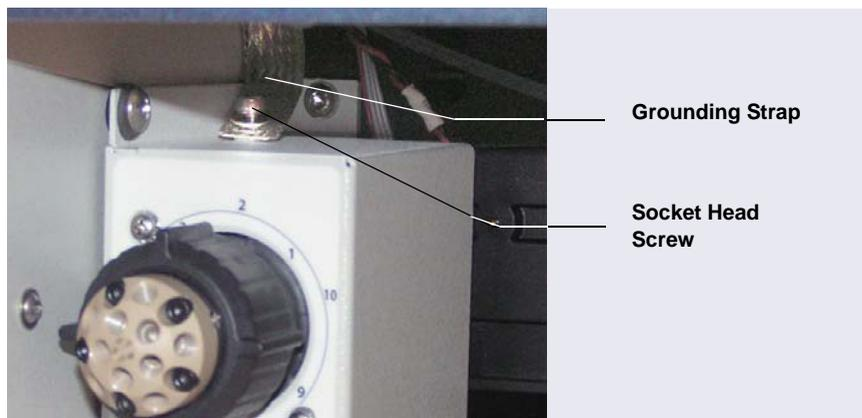

Figure C-9. *Grounding Strap Attached to Valve Mounting Bracket*
11. Using the cap socket head screw (P/N 050481) provided, attach the grounding strap to the connection location on the mounting bracket (see Figure C-9). Use a 3 mm Allen wrench to tighten the screw.